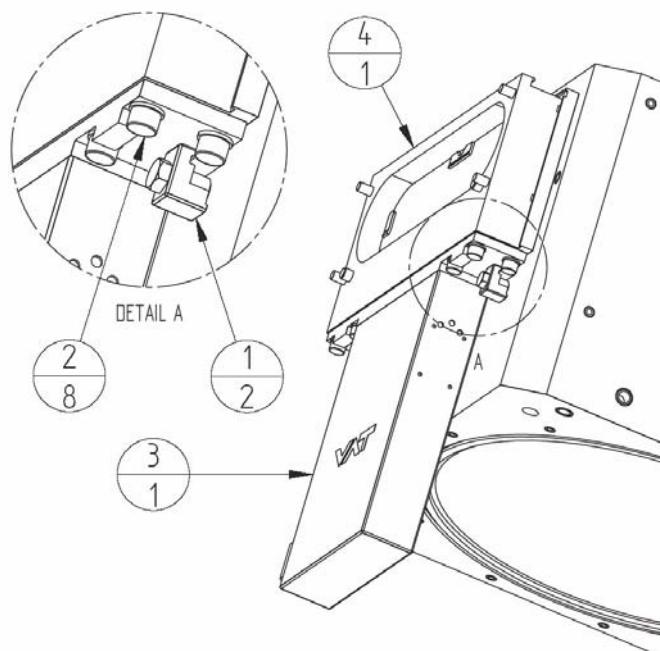

Figure 4.27 Gate Valve Assembly
1. Refer to Figure 4.27.
3. From beneath the valve, remove two M8 claw grip clamps (1) securing the gate valve to the chamber.
4. Remove the eight screws (2) securing the actuator body (3) to the gate valve interface (4).